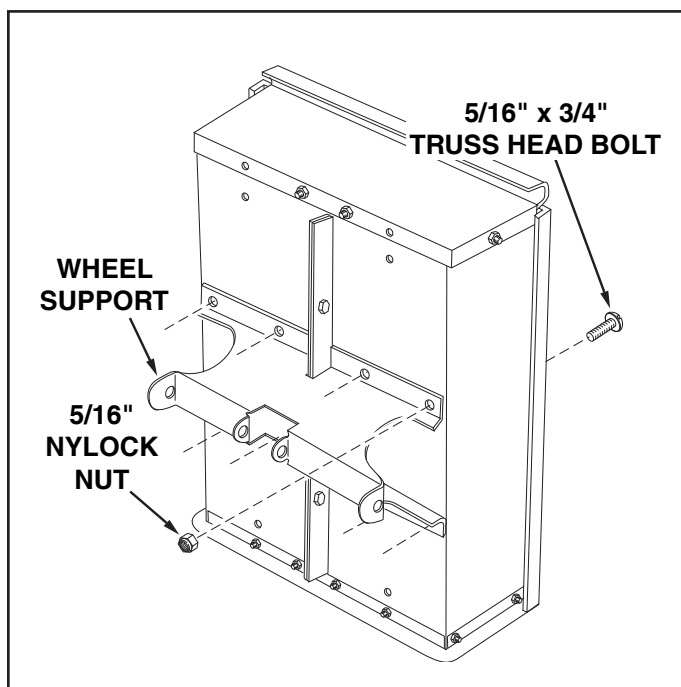

FIGURE 6
10. Assemble the wheel support to the cart using eight 5/16" x 3/4" truss head bolts and 5/16" nylock nuts as shown in figure 6. Heads of bolts go on the inside of cart. **Tighten**.